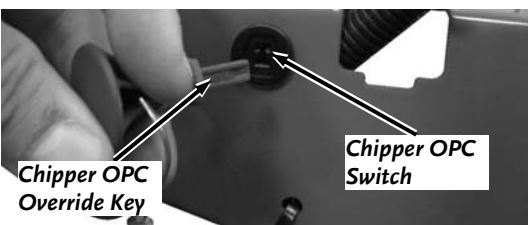

Figure 17
8. Plug in the Chipper OPC Override Key from the Chipper Attachment to the Chipper OPC Switch (**Figure 17**).
2. Plug the OPC Override Key into the switch on the side of the Frame (**Figure 17**)